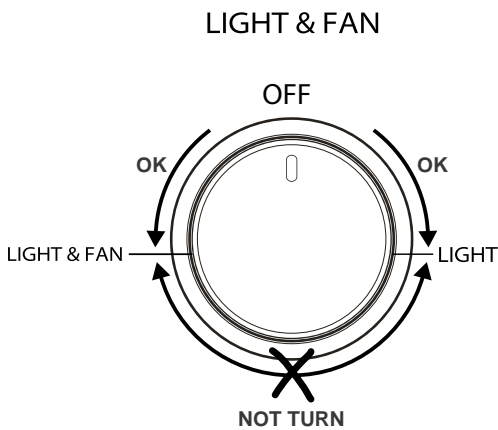

Fig. 3.2a
The oven light and the fan motor are controlled by a switch knob on the control panel (fig. 3.2a - 3.2b). To light up the oven lamp turn the knob anti-clockwise to LIGHT position.
**IMPORTANT NOTE:** during ignition of the oven burner the fan motor shall be switched off (light and fan control knob in OFF position - Figs. 3.2a - 3.2b).
After lighting the oven burner switch on the fan motor by turning the LIGHT & FAN control knob (fig. 3.2a-3.2b) on LIGHT & FAN position.
With the oven burner control knob in OFF position turn the LIGHT & FAN control knob (fig. 3.2a-3.2b) on LIGHT & FAN position.